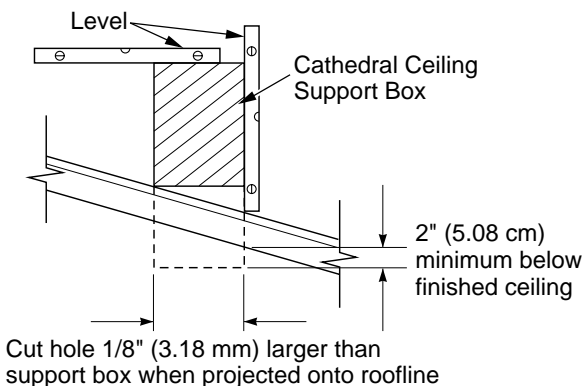

Figure 36 - Cathedral Ceiling Support Box Installation
- Cut the hole 1/8" (3.18 mm) larger than the support box outline (see Figure 36).
- Lower the support box through the hole in the roof until the bottom of the box extends at least 2" (5.08 cm) below the ceiling (see Figure 36). Align the support box vertically and horizontally using a level. Temporarily tack the support box in place through the inside walls and into the roof sheathing.